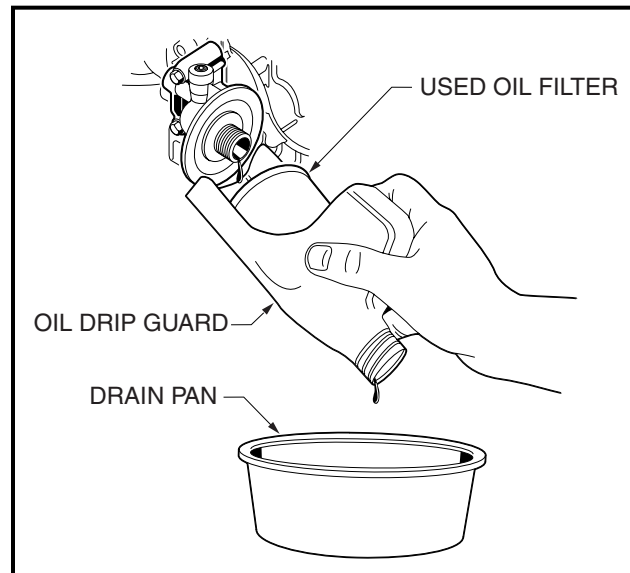

Figure 23 Remove Engine Oil Filter
- Remove the engine oil filter, turning it counterclockwise, allowing the residual oil in the filter port and filter to drain into the oil drain pan (Figure 23). See following NOTE.
NOTE: An oil drip guard can be used to prevent excess oil from dripping into the engine base plate. Use an empty quart (one liter) container and cut the bottom off at an angle, then slide the open area of the container up and under the oil filter prior to removing. Position the port of the plastic container so oil will be directed into the oil pan (**Figure 23**). A drip guard can be by folding a piece of cardboard, thin metal, or plastic under the oil filter forming a channel to direct the filter port oil into the drain pan.